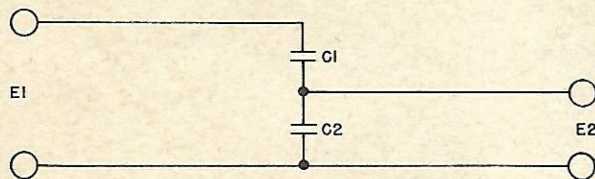

Figure 7.4—Capacitive Divider
7.4 Capacitive Dividers—At high frequencies it is often more desirable to use a capacitive divider instead of the resistive type. Figure 7.4 shows a divider composed of C_1 and C_2 . C_2 must be large compared to the capacitive component of the input impedance of the oscillograph, otherwise this component must be considered when proportioning the network. When-